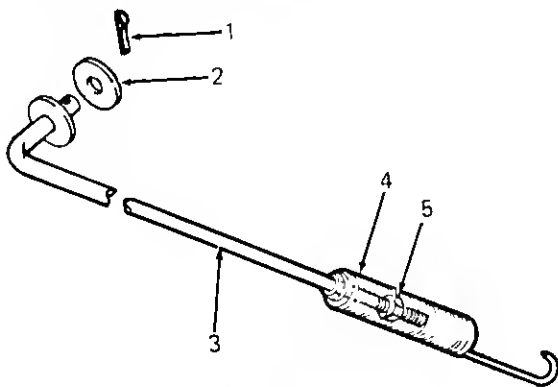

Figure 17
3. Refer to Figure 17 and tighten the hex nut on the end of the brake rod, under the spring as follows: remove the hairpin cotter and flat washer from the other end of the brake rod to disconnect it, and tighten the hex nut.
To decrease brake force, refer to Figure 17 and proceed as follows: